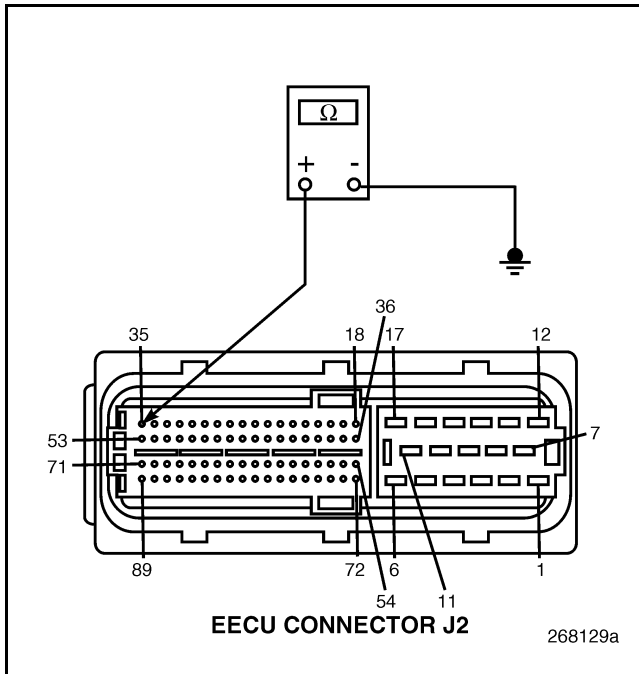

Figure 840
4. Check for continuity between EECU harness connector J2, pin 35 and a good ground (see Figure 840).